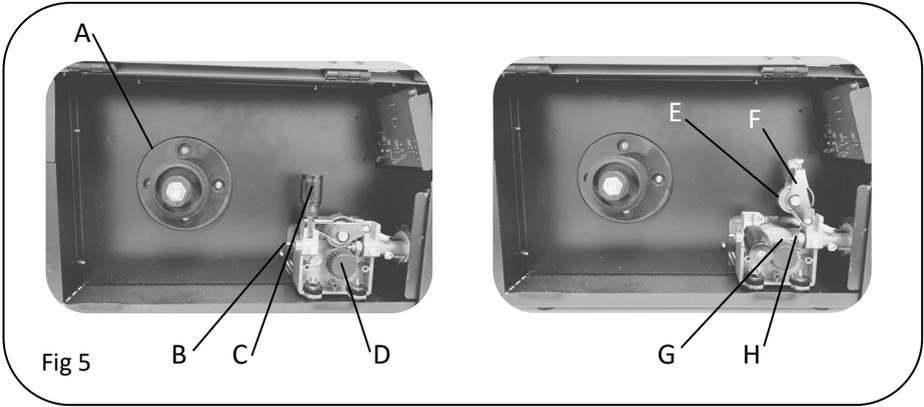

Fig 5
- The wire is fitted the same for gas & gasless welding. Fig.5.